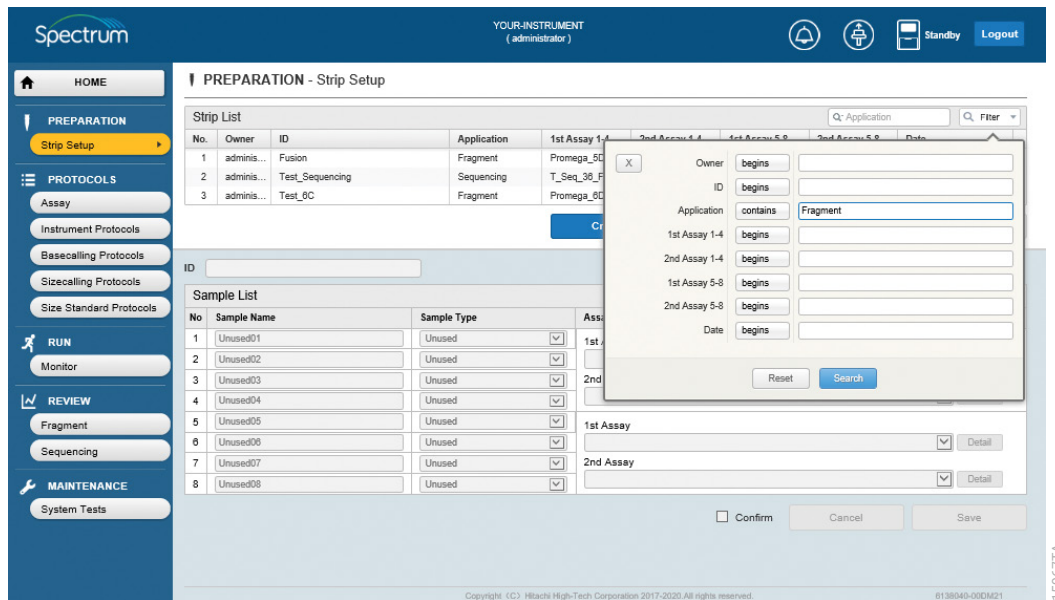

Figure 19. 'Strip List' search filter option selection.
- After selecting the appropriate filter for the search term in the field being searched (i.e., Owner, ID, Application, 1st Assay 1–4, 2nd Assay 1–4, 1st Assay 5–8, 2nd Assay 5–8 or Date), type the desired search term in the adjacent box and select **Search** (Figure 19). For example, for the Applications search field, select **contains** for the filter category and type "fragment" in the adjacent box. Alternatively, select **Reset** to exit.